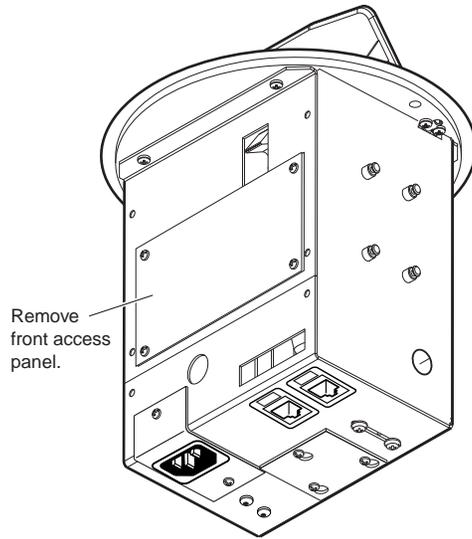

Figure 3-1 — Removing the front access panel (HSA 222 models)
2. **(HSA 222 models only)** Remove the four Philips head screws from the front access panel (figure 3-1). Retain the screws. Lift the panel away from the enclosure.